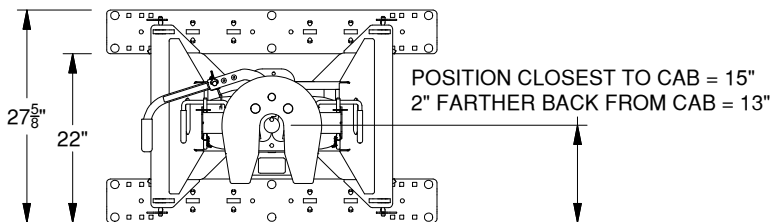

Figure A2: Distance from edge of rear rail to pivot point. (Rails, base, and coupler shown fully assembled)
1. Mount arms. Mount the pivot arms using one of the six different locations illustrated in Table A1 and Figure A2. These six locations allow flexibility in coupler height (vertical adjustment) and distance from the cab (horizontal adjustment). Choose a location so that your trailer will be as level as possible and have adequate turning clearance while towing.